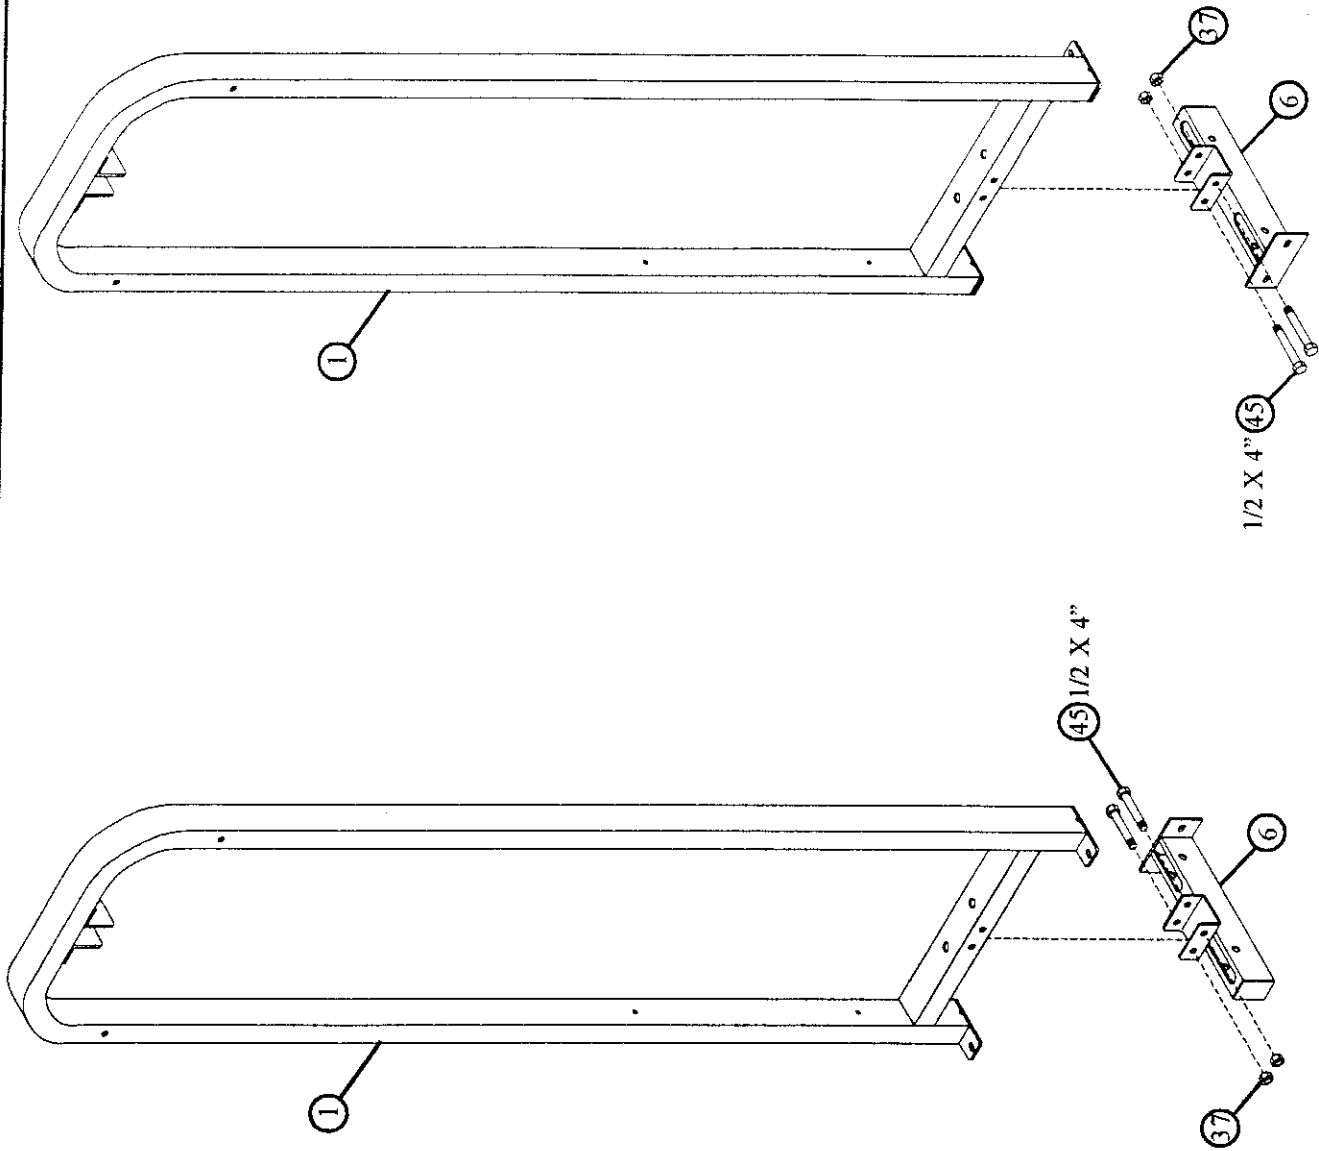

FIGURE 1
- **SECURELY** assemble the two LOWER PULLEY HOUSINGS (6) to the two TOWERS (1) using four 1/2 X 4" BOLTS (45) and four 1/2" LOCK NUTS (37) as shown in FIGURE 1.